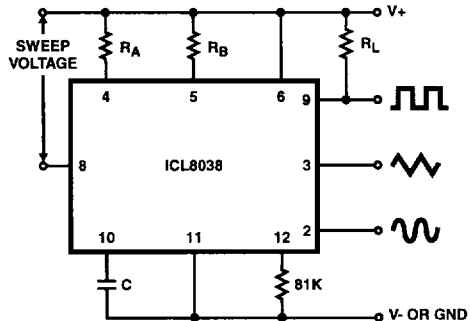

FIGURE 5B. CONNECTIONS FOR FREQUENCY SWEEP
- The hi and lo frequencies can be obtained by connecting pin 8 to pin 7 (f_{HI}) and then connecting pin 8 to pin 6 (f_{LO}). Otherwise apply Sweep Voltage at pin 8 ($\frac{2}{3} V_{SUPPLY} + 2V$) $\leq V_{SWEEP} \leq V_{SUPPLY}$ where V_{SUPPLY} is the total supply voltage. In Figure 5B, pin 8 should vary between 5.3V and 10V with respect to ground.
For larger FM deviations or for frequency sweeping, the modulating signal is applied between the positive supply voltage and pin 8 (Figure 5B). In this way the entire bias for the current sources is created by the modulating signal, and a very large (e.g. 1000:1) sweep range is created (f = 0 at VSWEEP = 0). Care must be taken, however, to regulate the supply voltage; in this configuration the charge current is no longer a function of the supply voltage (yet the trigger thresholds still are) and thus the frequency becomes dependent on the supply voltage. The potential on Pin 8 may be swept down from V+ by (1/3 V_{SUPPLY} - 2V).